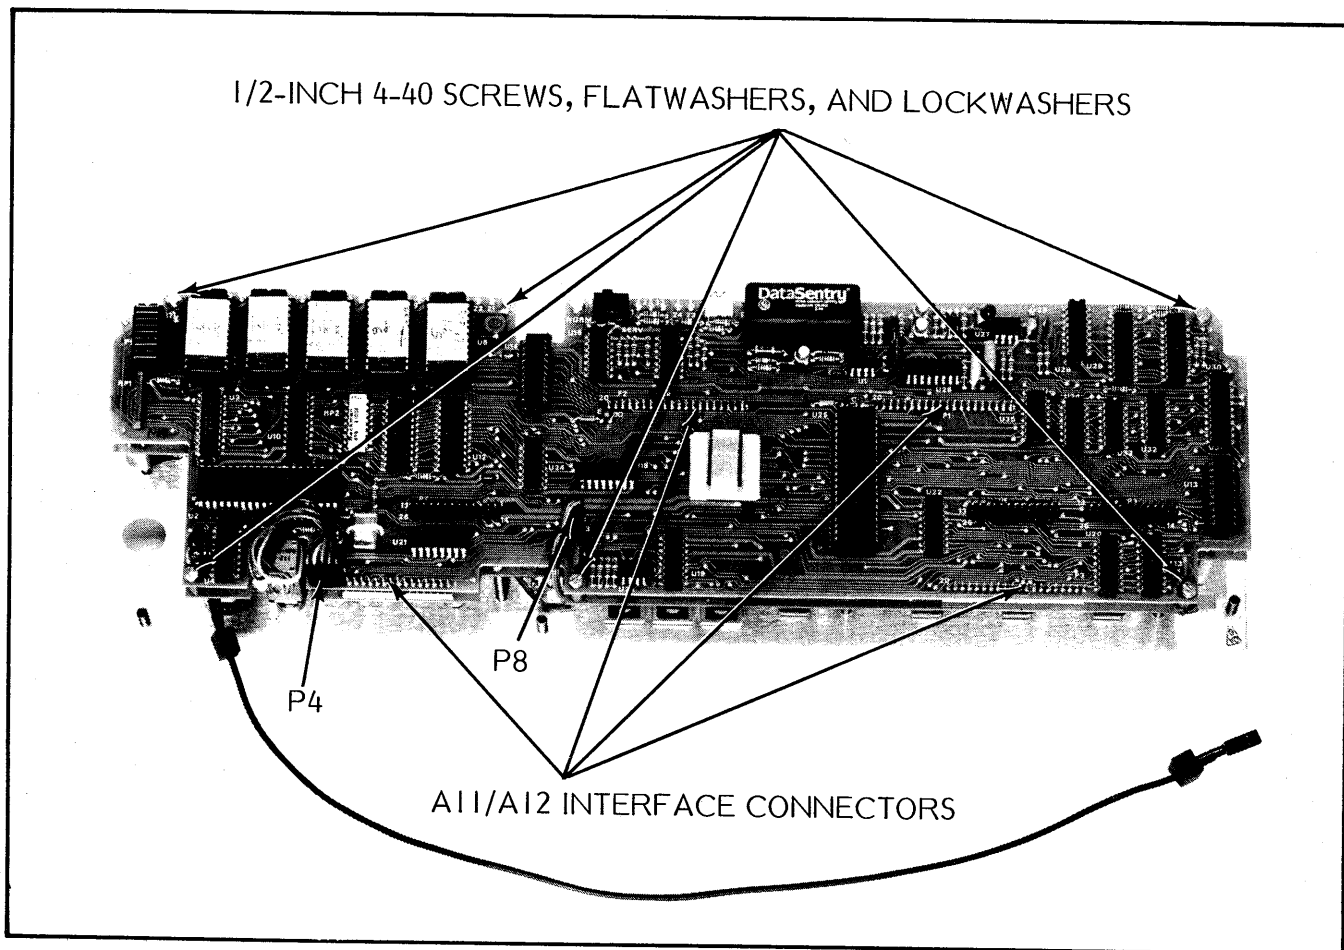

Figure 7-4. 6600A Series Programmable Sweep Generator, Front Panel Assembly
The A12 and A11 PCBs are interconnected using 4 in-line-pin connectors (Figure 7-4). When separating the two PCBs, use care to avoid bending connector pins.
7. Reconnect the 5-wire connector to A12P4 (green wire to pin 20); see Figure 7-4.
8. Reconnect the 3-wire connector to A12P8 (brown wire to pin 1); see Figure 7-4.